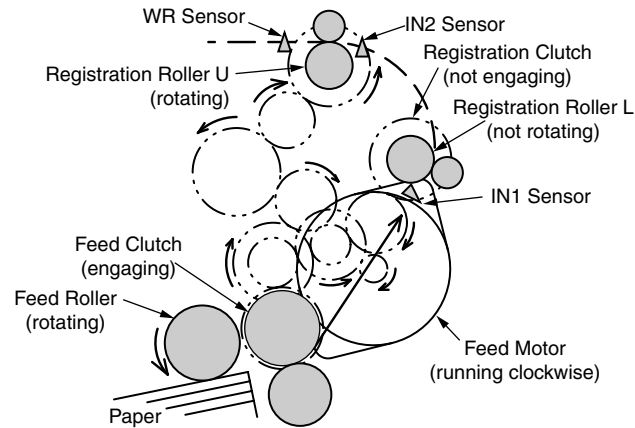

Figure 2-1
1. As figure 2-1 shows, a feed motor runs clockwise, a feed clutch engages and paper is fed (a feed roller rotates when the feed clutch engages).